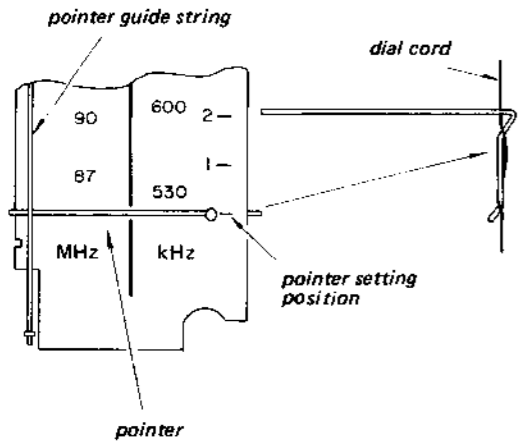

Fig. 6-1 Pointer setting
2. After stringing the dial cord, attach the pointer to dial cord and set it to specified position shown in Fig. 6-1.